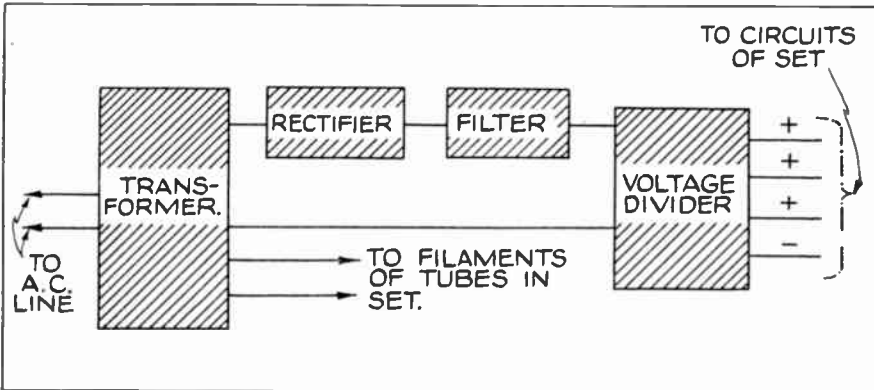

Fig. 63
(A) The line current is passed through the primary of a power transformer, which has two or more secondaries. One secondary steps the voltage up for the plate supply; another steps it down for the filament supply; another may supply the filament of the rectifier. The plate current is rectified (changed into D.C.) in the rectifier tube, and is filtered by means of chokes and condensers, or condensers alone, to remove the ripple from it. It is then fed to a voltage divider, from the taps of which the various voltages needed for the set are taken. In some sets, the voltage divider is omitted, individual resistors in various circuits performing the function. Fig. 63 shows this action.